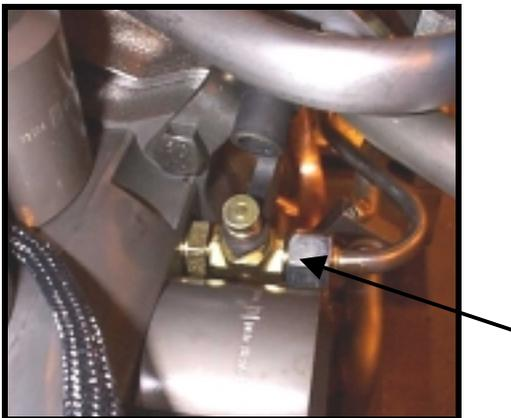
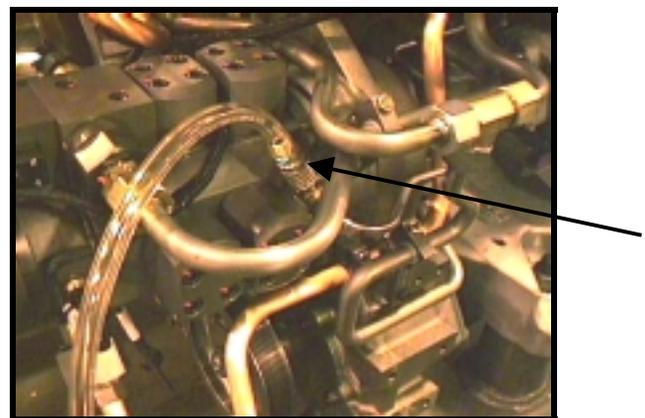

Fig. 107 Fuel System Vent Valve
Fig. 108 Vent Valve with Quick Coupling and Hose Connected
- 3. Connect a hose with quick disconnect coupling P/N PD 243 to the vent valve located on the body of the high-pressure fuel pump. (See Fig.107 and Fig.108) Place the open end of the hose in a container to catch fuel discharge. On older units, loosen the fitting of the return fuel line on the high-pressure fuel pump to allow air to bleed out of the pump crankcase. (See Fig.109) When fuel flows without air bubbles present, disconnect the quick coupling or tighten the return line fitting.**